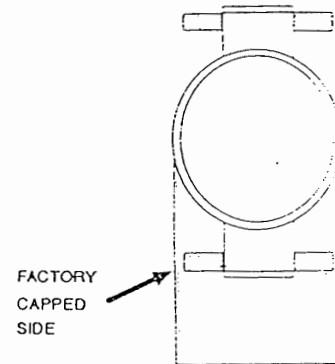

FIGURE 5 - DRAIN CAP LOCATION
6. All joints must be made to provide a permanent, air-tight water-tight seal. The only exception to this means of joining is where the street elbow is joined to the vent assembly. This joint should be made with RTV sealant. A stainless steel screw should be used in the hole in the venter housing to keep the street elbow in proper alignment. If the street elbow is changed for a left side exit, the stainless steel screw must be reused in the new location. If the elbow/drain is used for right side exit, carefully remove the plastic cap which is factory installed on the lower left drain connection (see Figure 5). Move the drain tubing and clamp from the lower right drain connection to the lower left drain connection. Place the plastic cap on the lower right drain connection.